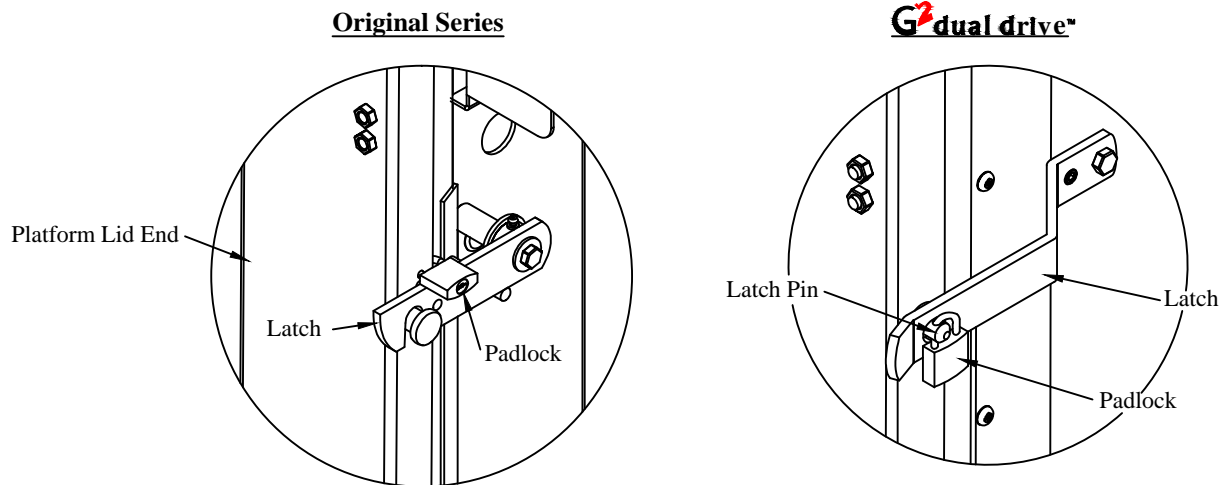

Figure 16: Padlock location.
9. **Lock** the padlock through the hole in the platform or latch pin (Figure 16).